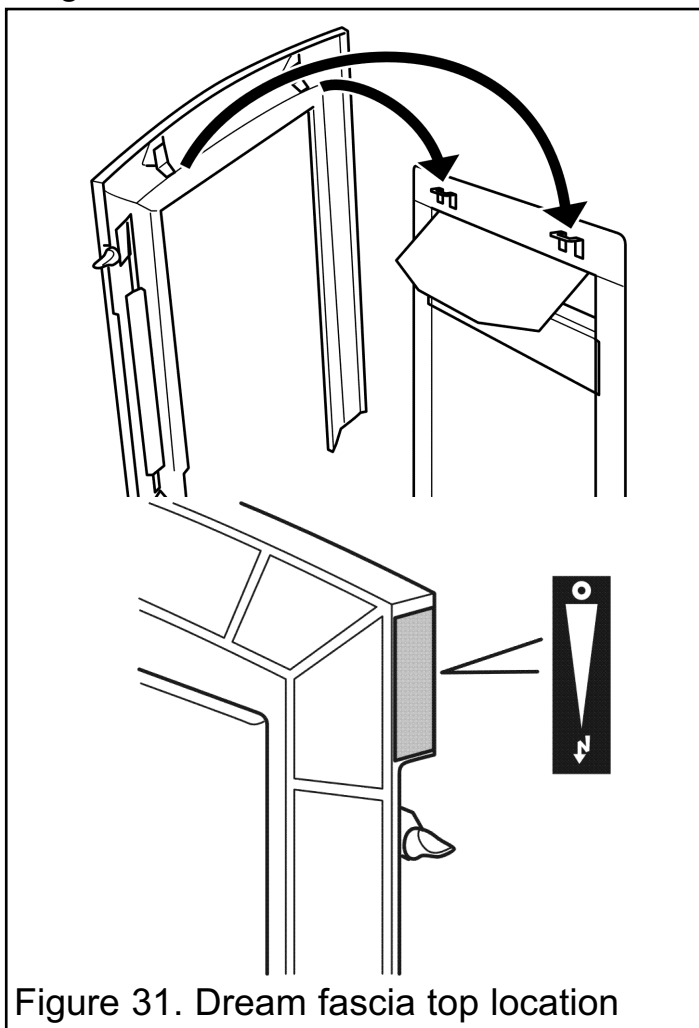

Figure 31. Dream fascia top location
ii) Lower the fascia making sure that the rear retaining plates locate fully into the retaining brackets on the convection box (See figure 31). If the inlet pipe runs along the front of the fireplace, the bottom of the fascia will have to be swung forwards to clear the pipe while lowering the casting.
6. Supplied with the fire is a self adhesive control position label. Peel the backing from the label and place as in figure 31.